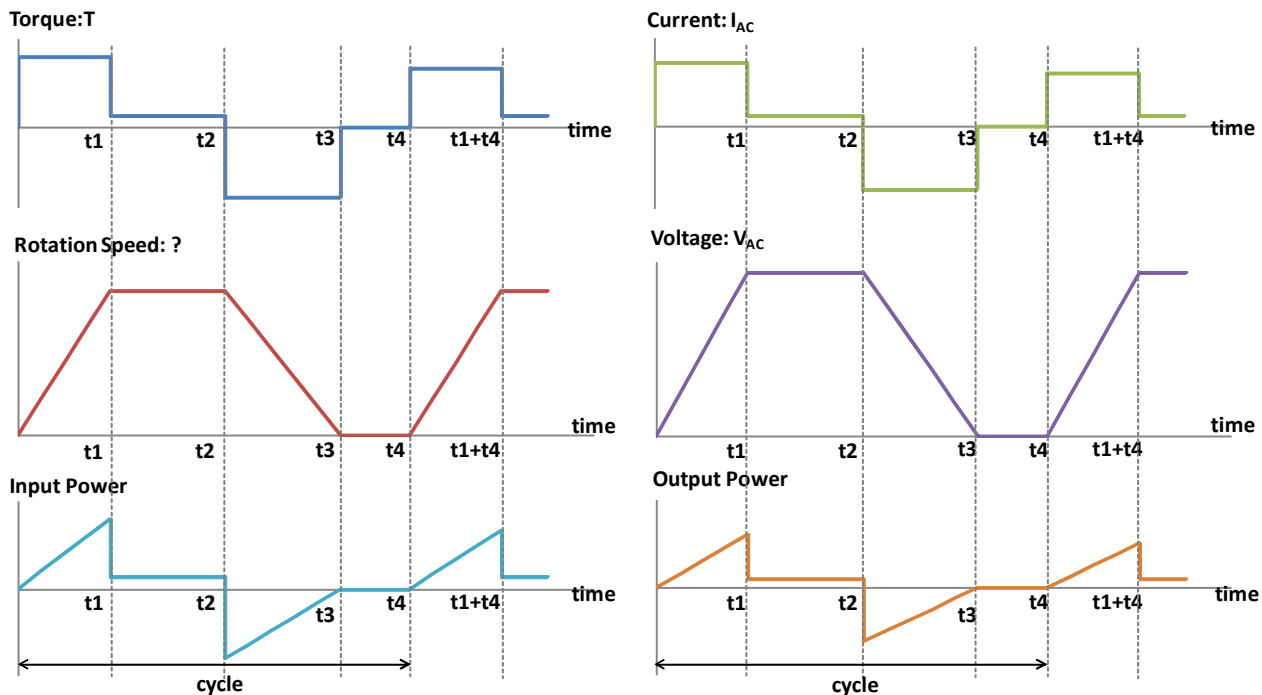

Figure 7.1-1 General cycle of motor : Constant rotation speed with positive torque.
**Condition 1:** Constant rotation speed with positive torque. A drive operates in regenerative mode when the rotation speed decreases, shown in Figure 7.1-1.